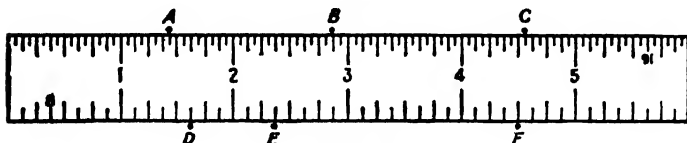

Fig. 3-5.
1. What are the readings in Fig. 3-5 at points A, B, C, D, E, and F?